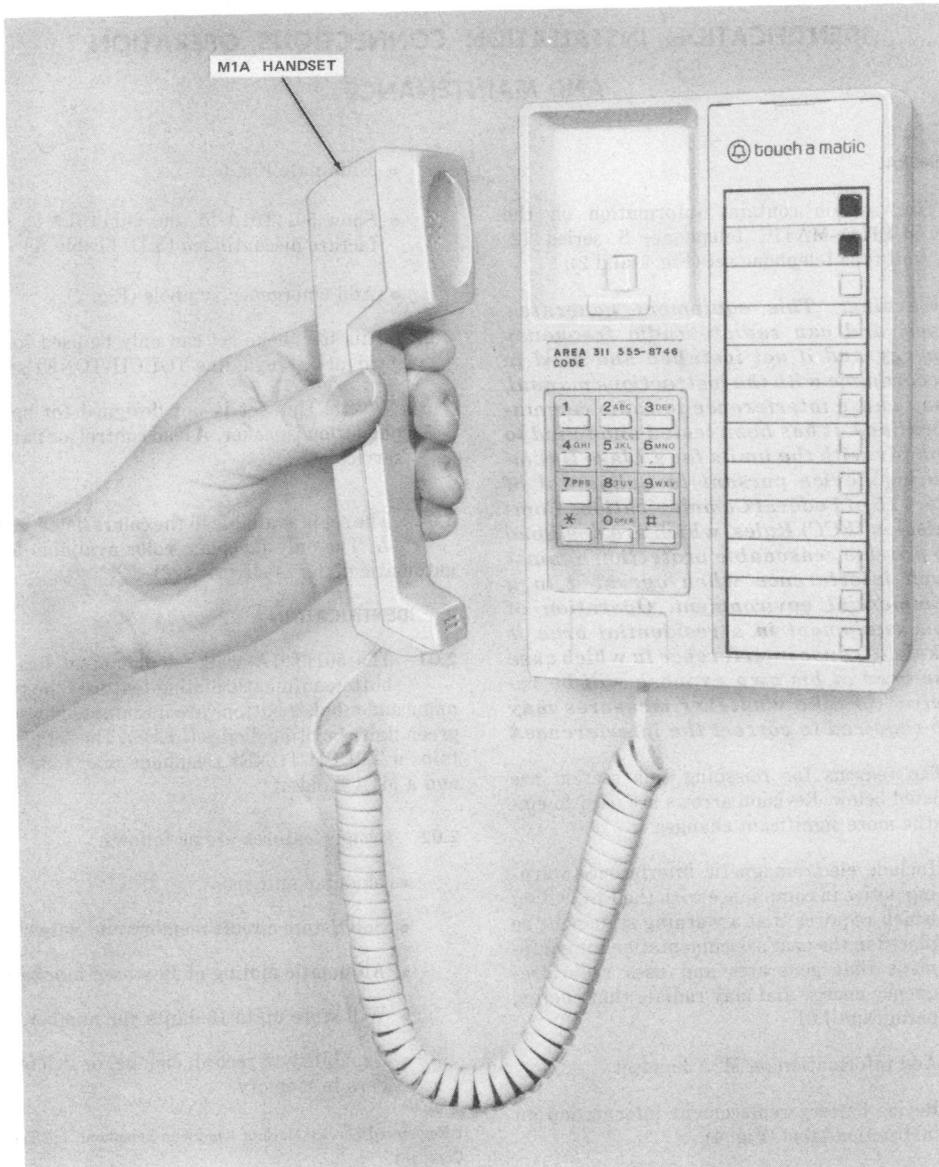

Fig. 1—5011T01A Telephone Set
1.01 This section contains information on the TOUCH-A-MATIC telephone, S series 12-button, wall type telephone set (Fig. 1 and 2).